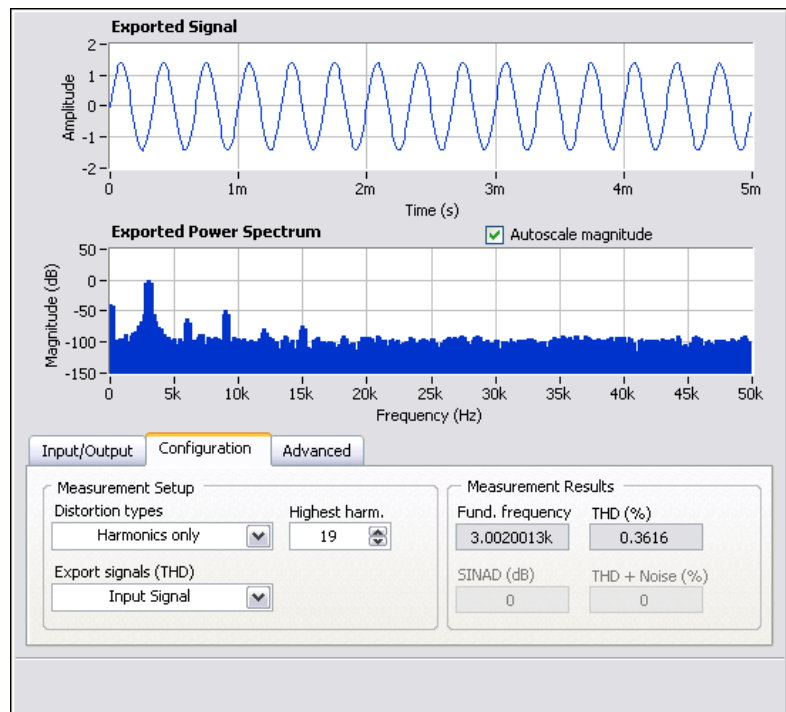

Figure 2-3. Distortion Step Setup Tab
1. Double-click the Distortion step in the Project View. LabVIEW SignalExpress displays the **Step Setup** tab for the Distortion step, as shown in Figure 2-3.